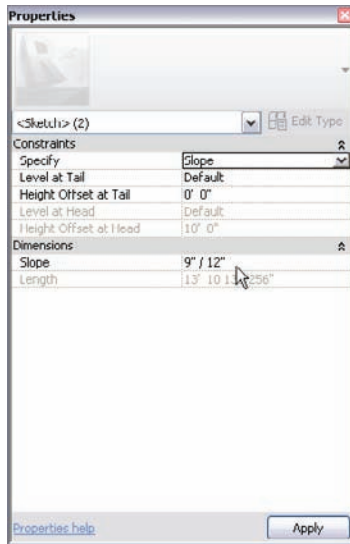

FIGURE 7.63 Changing the values of the slope arrows
8. Under Dimensions, keep the slope at 9" / 12" (750 / 1000mm) (see Figure 7.63).